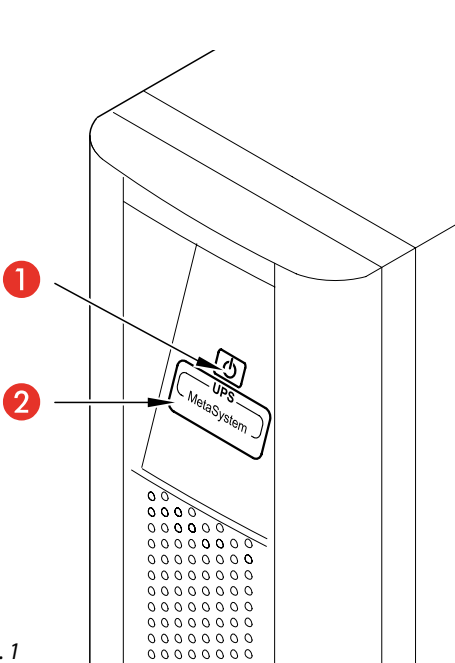

Fig. 1
2. Connect the power supply cable and the multiple-socket, output extension to the Input-Output connector [3] (see fig.1)